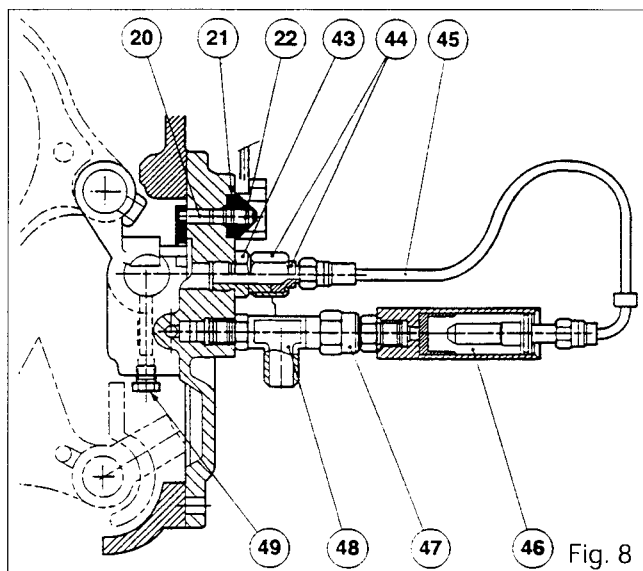

Fig. 8
D. Removing and refitting the accumulator (Figures 8 and 10)